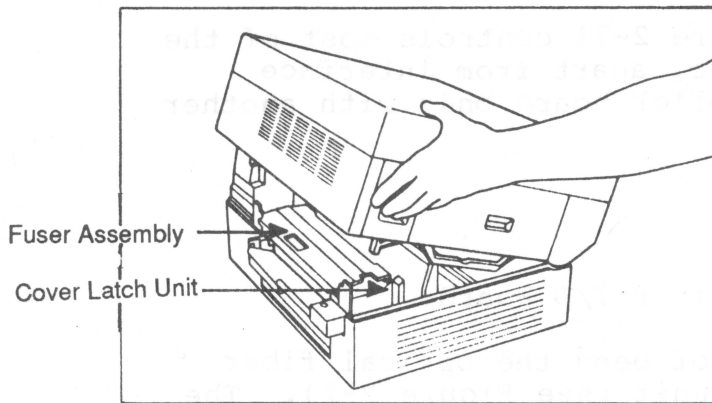

Figure 2-8
The fuser assembly (see Figure 2-8) contains a heater bulb inside its top roller. Pressure between the two rollers and heat from the bulb combine to melt and fuse the toner on to the paper. If the fuser rollers are worn or poorly adjusted, prints will be incompletely fixed and will smear easily.
3. Lift out the cover latch unit (a grey plastic piece at the front end of the unit - see Figure 2-8).
The fuser assembly (see figure 2-8) contains a heater bulb inside the top roller. Pressure between the two rollers and heat from the bulb combine to melt and fuse the toner on the paper. If the fuser rollers are worn or poorly adjusted, prints will be incompletely fixed and will smear easily.